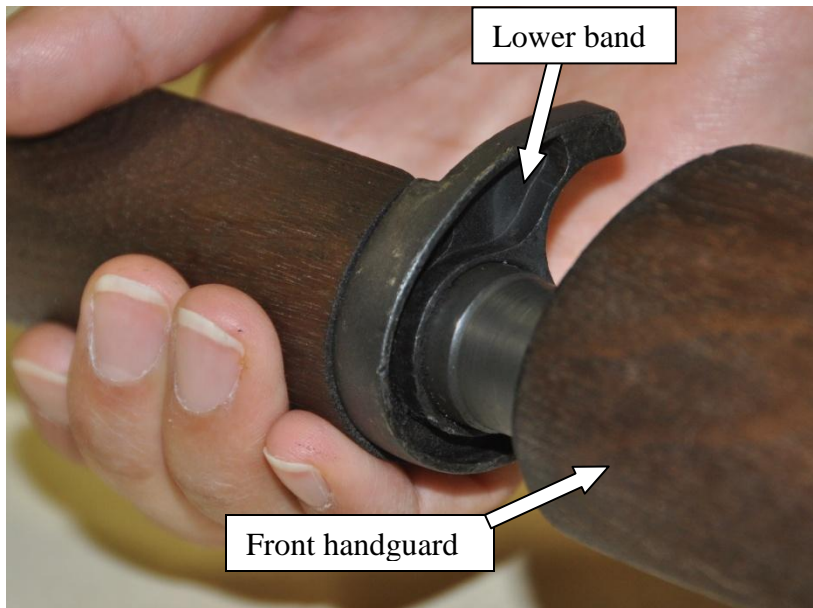

Figure 29. Front hand guard insertion
- 1) Replace the front hand guard by sliding it over the muzzle and ensuring that it is seated properly in the lower band (fig 29).